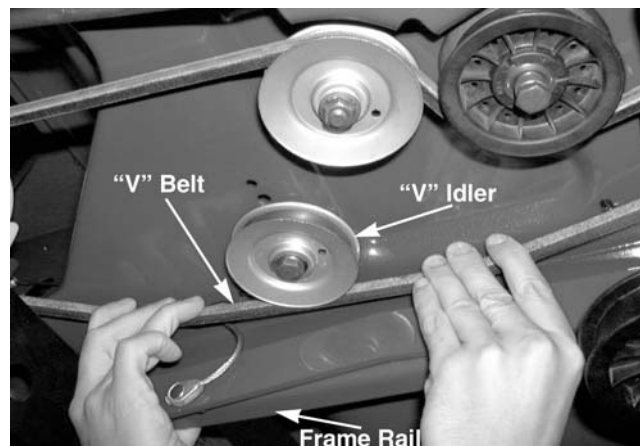

Figure 9-50
11. Grasp the left frame rail and "V" belt on both sides of the "V" idler. See Figure 9-50.